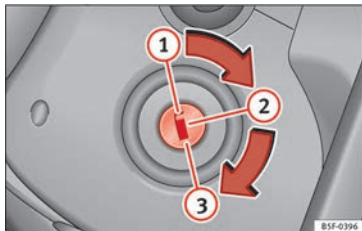

Fig. 191 Ignition key positions.
If the engine does not immediately start up, interrupt the starting process and try again after 30 seconds. To start the engine again, return the key to position » **Fig. 191** .
» **Fig. 191 ①**.
- Remove the key from the ignition in position » **Fig. 191 ①** » **⚠**.